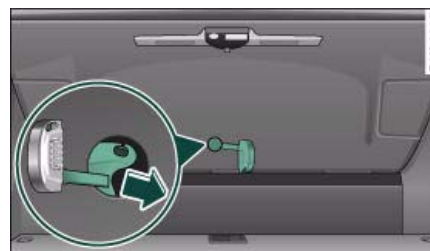

Fig. 44 Luggage compartment: Access to manual release
- Prise off the cover (using the emergency key) \Rightarrow fig. 44.